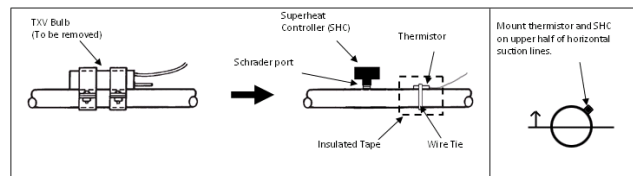

Figure 7: Evaporator Exit
5. Wire-tie the evaporator suction line and wrap with insulated tape (See Figure 7). Ensure the thermistor body is aligned parallel with the pipe.
Figure 7 assumes a single SHC.